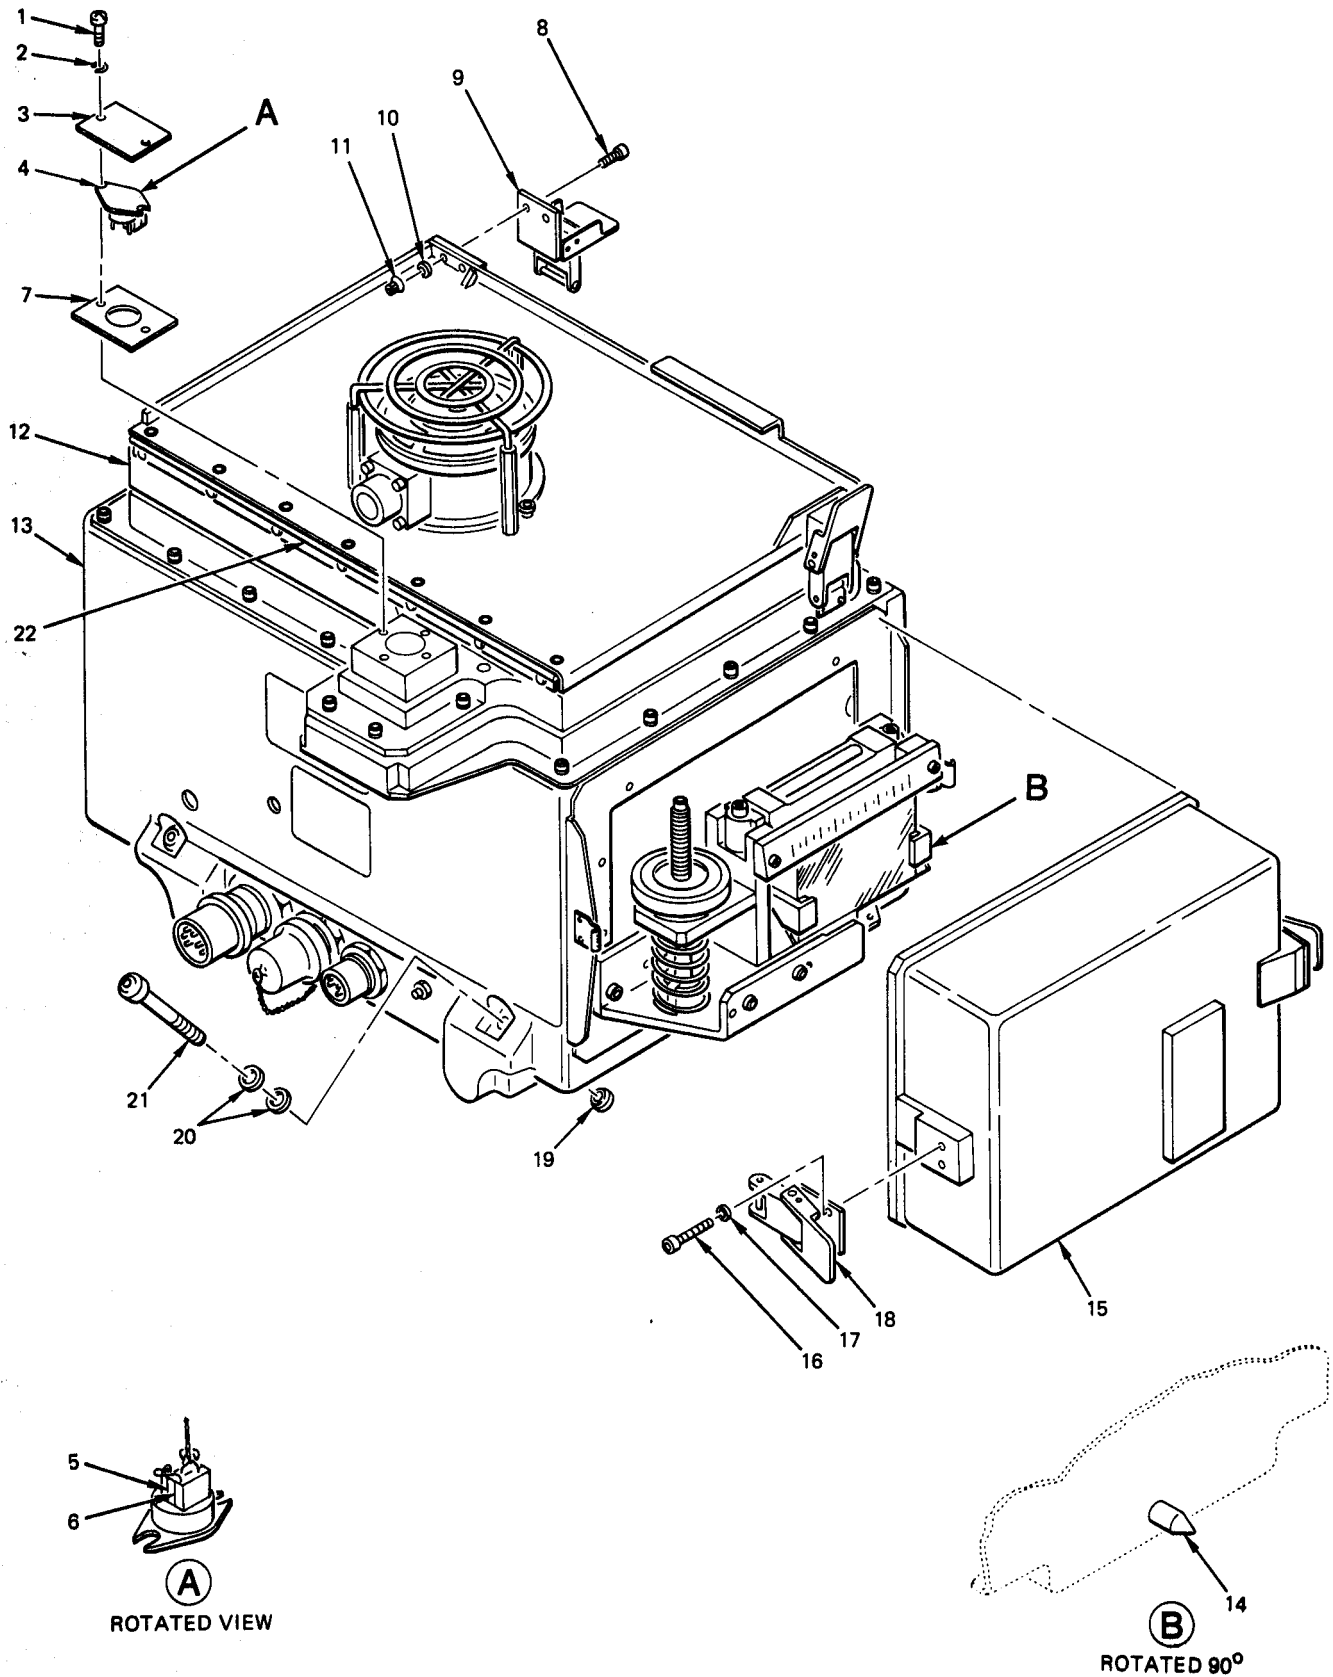

Figure 3-10. IMU Exploded View
porro prism cover. Figure 3-10 is an exploded view of the IMU.
a. Bolt Assembly. Remove and replace bolt assembly (21, figure 3-10) as follows:
(1) Removal.
- (a) Remove retainer nut (19) securing bolt assembly (21) to lower IMU subassembly (13).
- (b) Remove bolt assembly (21). Retain two washers (20) for reassembly.
(2) Replacement.
- (a) Clean guide pin (14) threads using isopropyl alcohol and clean, lint-free material; wipe dry.
- (b) Apply sealing compound primer (MIL-S-22473) to guide pin (14) threads; allow to dry.
- (c) Apply sealing compound (MIL-S-22473, Grade C) to guide pin (14) threads.
- (d) Install guide pin (14) in lower IMU subassembly (13). Torque guide pin 90 to 100 inch-pounds.
c. Ambient Temperature Thermostatic Switch. Remove and replace thermostatic switch (4, figure 3-10) as follows:
- (a) Remove two screws (1), washers (2), and cover plate (3) securing thermostatic switch (4) to upper IMU subassembly (12). Remove thermostatic switch (4) far enough to provide access to soldered connections.
- (b) Tag and unsolder all wires connected to thermostatic switch (4). Remove thermostatic switch and gasket (7).
Legend for Figure 3-10
- (a) Clean mountin surfaces of capacitors C3 and C4 (5 and 6) and thermostatic switch (4) using isopropyl alcohol and lint-free material.
- (b) Apply adhesive (MIL-A-46146, Type 1) to mounting surfaces of capacitors C3 and C4 (5 and 6) and thermostatic switch (4). Mount capacitors. C3 and C4 (5 and 6) on thermostatic switch (4).
- (d) Install gasket (7).
- (e) Prepare and solder wires connecting thermostatic switch (4) and capacitors C3 and C4 (5 and 6) using standard shop practices. Clean solder joint; remove excess flux.
- (f) Install two screws (1), washers (2), and cover plate (3) securing thermostatic switch (4) to upper IMU subassembly (12).
d. **IMU Cover Repair.** Repair of the IMU cover (22, figure 3-10) consists of replacing the clamping catch(es) (9). Remove and replace the clamping catch(es) as follows:
- (a) Release clamping catch (9) from catch strike.
- (b) Remove two screws (8), washers (10), and nuts (11) securing clamping catch (9) to IMU cover (22). Remove clamping catch.
- (a) Secure clamping catch (9) to IMU cover (22) with two screws (8), washers (10), and nuts (11).
- (b) Latch clamping catch (9) to catch strike.
e. **Porro Prism Cover Repair.** Repair of the porro prism cover (15, figure 3-10) consists of replacing the clamping catch(es) 18). Remove and replace the clamping catch(es) as follows:
- (a) Release two clamping catches (18) and remove porro prism cover (15) from IMU.
- (b) Remove two screws (16) and washers (17) securing clamping catch (18) to porro prism cover (15). Remove clamping catch.
- (a) Secure clamping catch (18) to porro prism cover (15) with two screws (16) and washers (17).